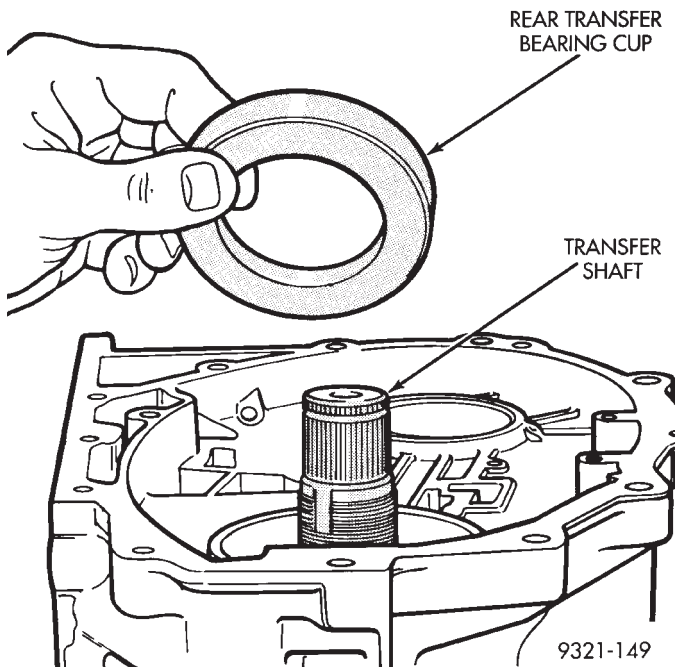

Fig. 278 Rear Transfer Bearing Cup
(39) Install rear transfer shaft cup into case (Fig. 278).